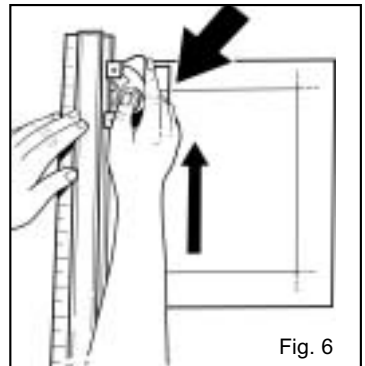

Fig. 6
4. Keeping downward pressure on the Blade Holder, slide the Bevel Cutter away from you until it intersects with the upper line. Be sure and keep even downward pressure. (Fig.6).